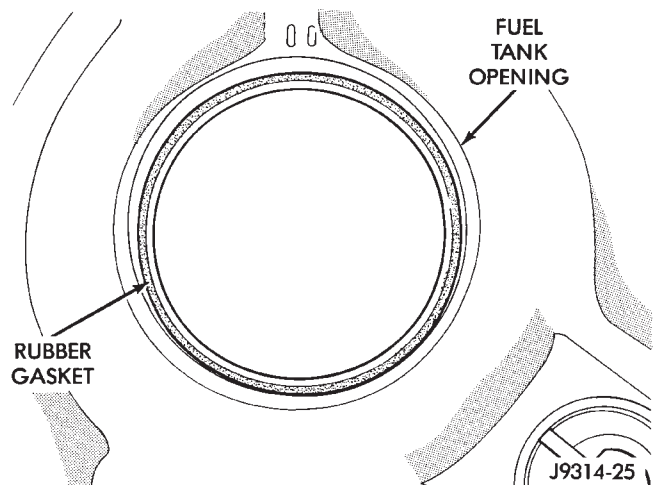

Fig. 29 Rubber Gasket
- (1) Using a new gasket (Fig. 29), position fuel pump module into opening in fuel tank.
- (2) Position new locknut over top of fuel pump module.